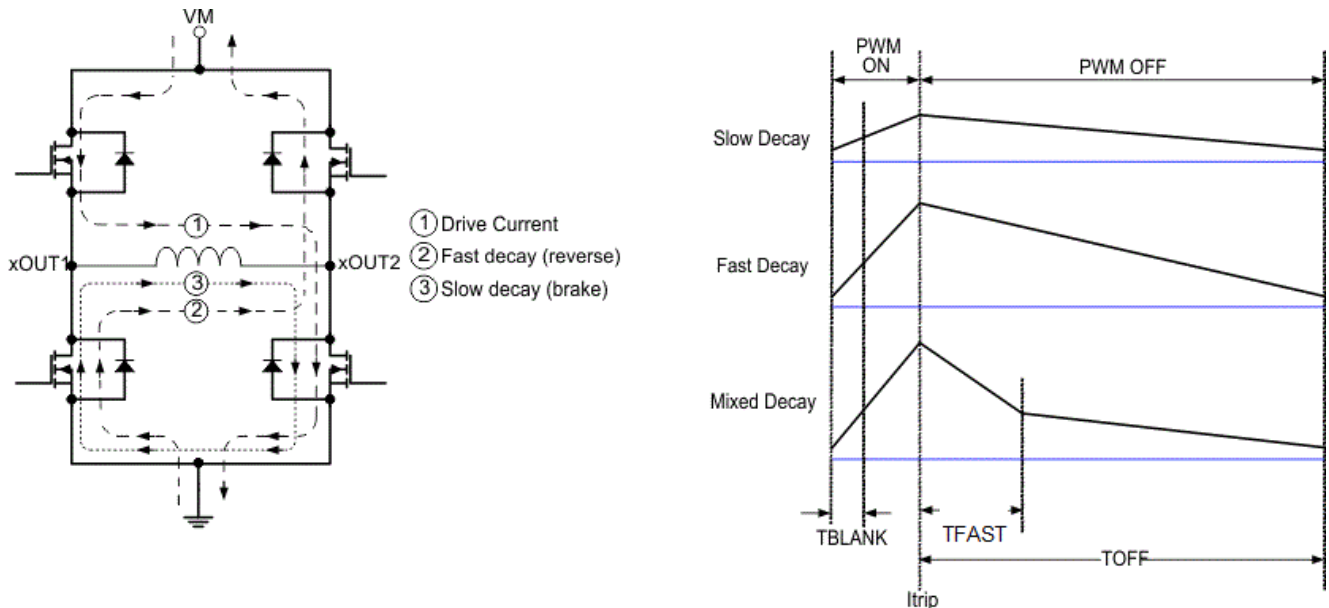

Figure 7-7. Decay Modes
During PWM current chopping, the H-bridge is enabled to drive through the motor winding until the PWM current chopping threshold is reached. This is shown in Figure 7-7, Item 1.
Once the chopping current threshold is reached, the H-bridge can operate in two different states, fast decay or slow decay. In fast decay mode, once the PWM chopping current level has been reached, the opposite FETs are turned on and the H-bridge reverses state to allow winding current to flow in a reverse direction. Fast decay mode is shown in Figure 7-7, item 2. In slow decay mode, winding current is re-circulated by enabling both of the low-side FETs in the bridge. This is shown in Figure 7-7, Item 3.